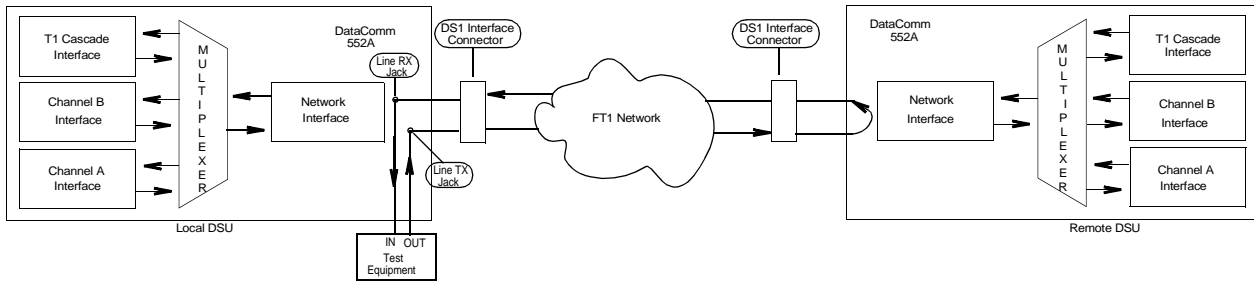
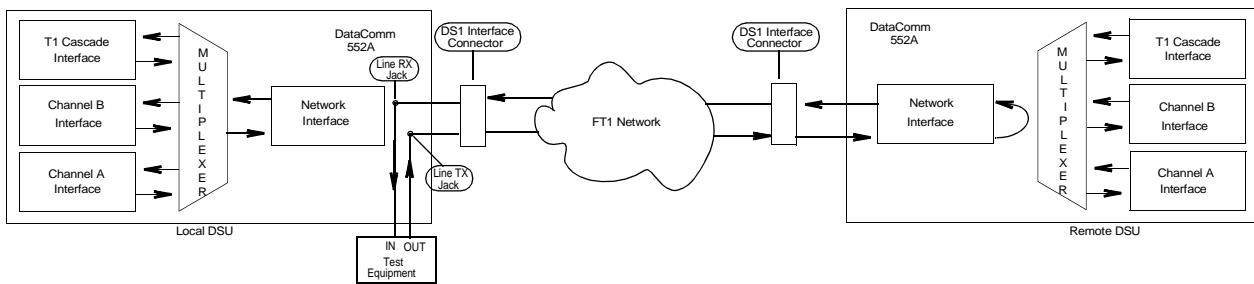

Figure 4-14 DS1 Remote Test with Line Loopback
Figure 4-15 DS1 Remote Test with Test Loopback
DS1 Remote Test (RT) activates the remote DSU's DS1 Line Loopback function (illustrated in Figure 4-14) or DS1 Test Loopback function (Figure 4-15), depending on which one is enabled in the remote DSU. This tests both DSUs and the T1 link by transmitting a locally-generated test message through the local DSU to the remote DSU and looping it back to the test equipment for verification. Bipolar violations are uncorrected during this test when the remote DSU has its LLB function enabled. Whether the local DSU transmits framed or unframed loopback codes depends on the selection of the loopback test code framing option.